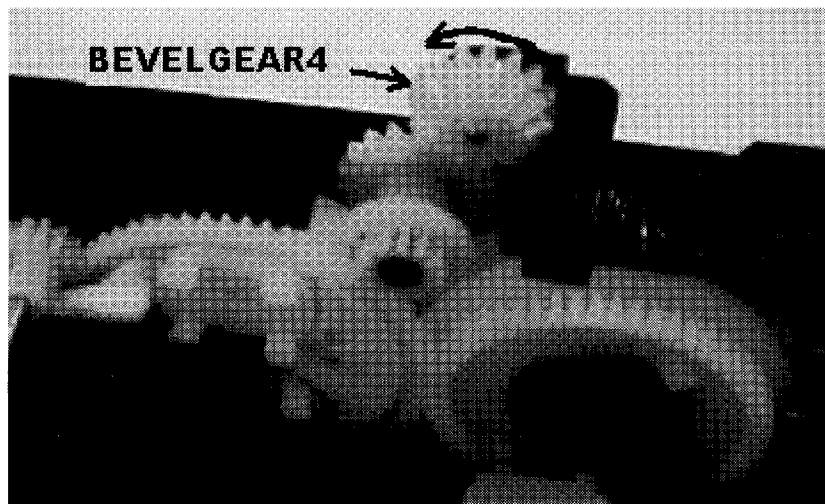

Fig.14
- 1) Turn BEVEL GEAR 4(17) anti-clockwise. (See Fig. 14.)
- 4) Then, turn BEVEL GEAR 4 (17) anti-clockwise and take out the second **CARRIAGE**.